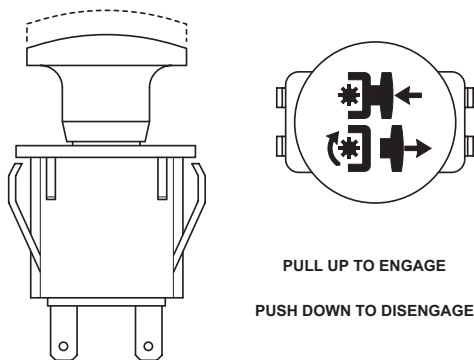

Figure 4-5. Cutter Engage Switch
2. Engage the deck drive by pulling up on the yellow switch, located on the instrument panel, to the engage position. See Figure 4-5.